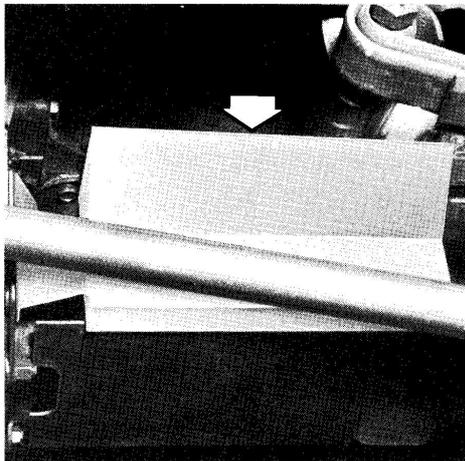

Fig. 21. Oil pan shroud mounted to oil pan.
- c. With the two bolts just removed mount the oil pan shroud to the oil pan as shown in Fig. 21.